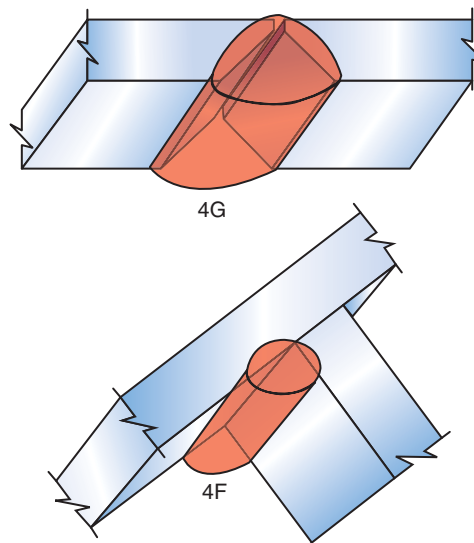

Figure 3.9 Plate overhead position
- overhead 4G or 4F—Welding is performed from the underside of the joint, Figure 3.9.